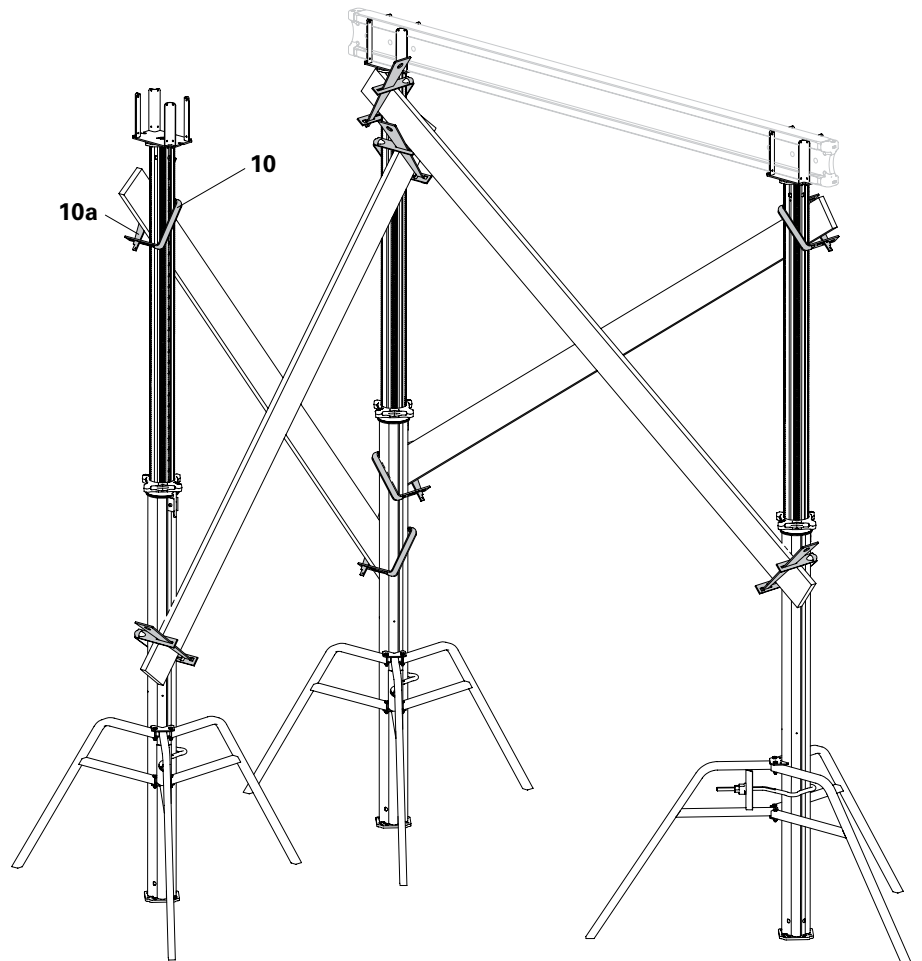

Fig. A3.01
5. Mount additional bracing boards by means of Brace Clamps. (Fig. A3.01)